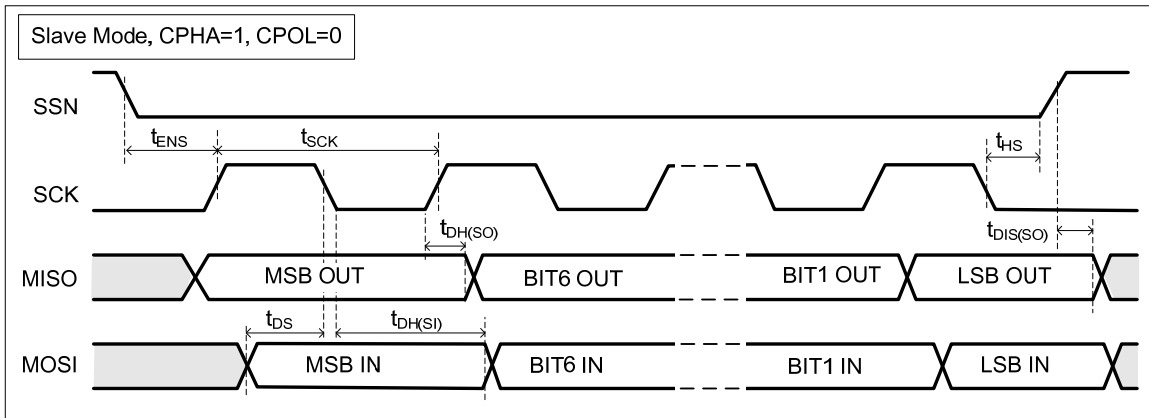
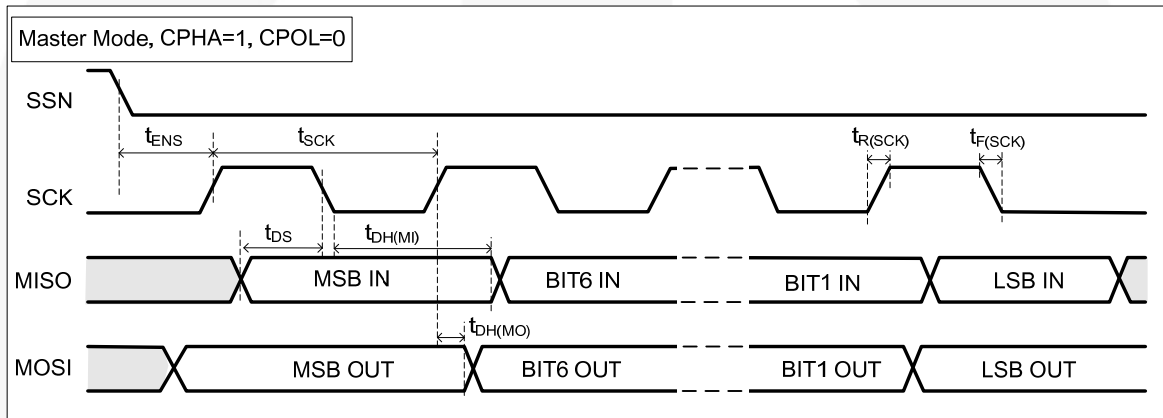

Figure 5. SPI Timing Diagram- Slave Mode
Figure 6. SPI Timing Diagram - Master Mode
9. SPI timing diagrams as Figure 5 and Figure 6.